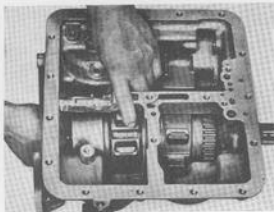

Fig. 4-100. Withdrawing rear clutch and forward sun gear group
27. Withdraw the rear clutch assembly together with the forward sun gear shaft, see Fig. 4-100.